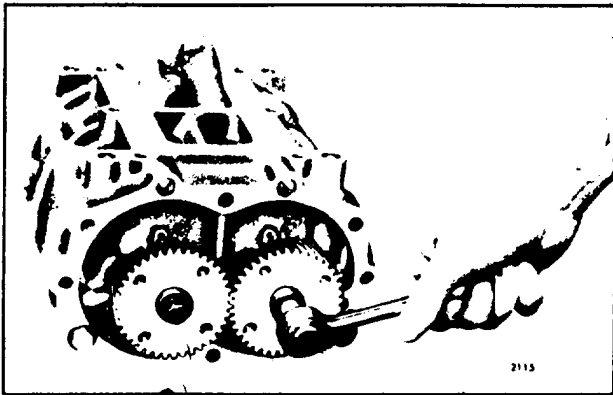

Fig. 8. - Installing Blower Rotor Gears
9. Wedge a clean cloth between the blower rotor;. Use the gear retaining bolts and plain washers to prep, the gears on the rotor shafts (Fig.8.) Turn the bolts uniformly until the gears are tight against the shoulders on the shafts.